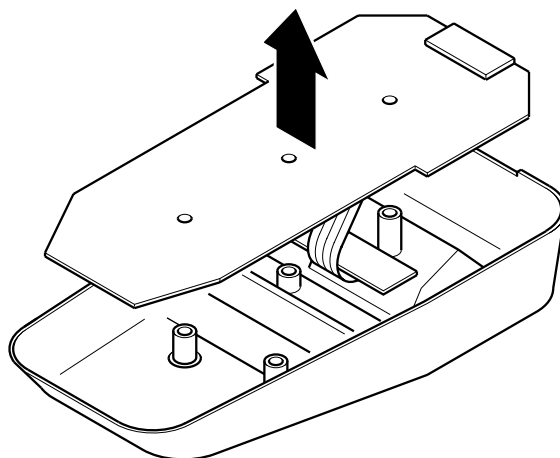

Figure 16: Charger C removal 1
4. Figure 16 Raise and tilt the charger C to expose the connector cable